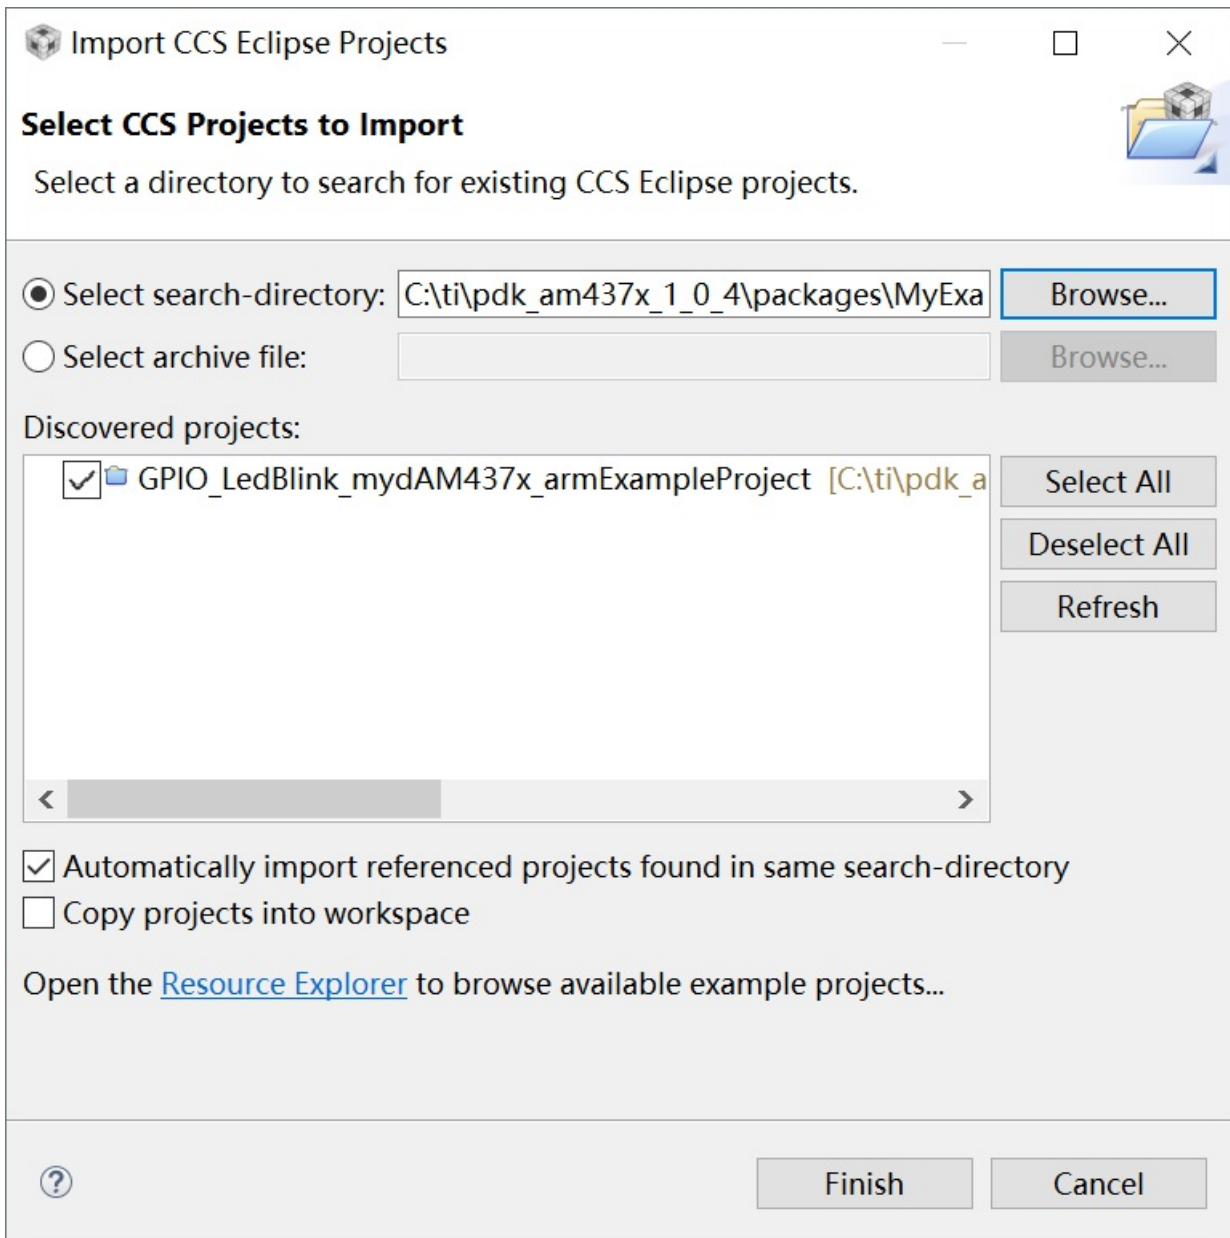

Figure 3-3-1 Import gpio_ledblik Project
2. Choose **File->Import** in CCS main menu, the **Select search-directory** dialog pops up as shown in Figure3-3-1 below.